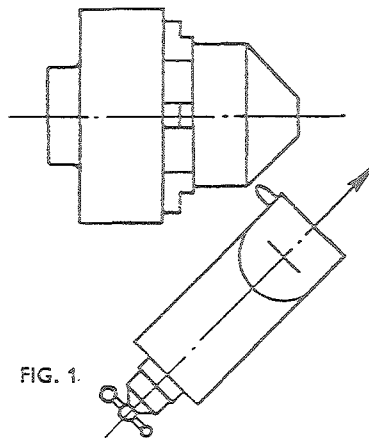

FIG. 1.
Methods of Taper Turning and Boring. Three general methods are applicable. (1) As shown in fig. 1, by means of swivelling the compound rest to the angle required for either boring or turning. This method is by hand traverse of the tool, and is limited to the length of movement of the top slide, but it has the advantage that taper surfaces of any angle can be machined.